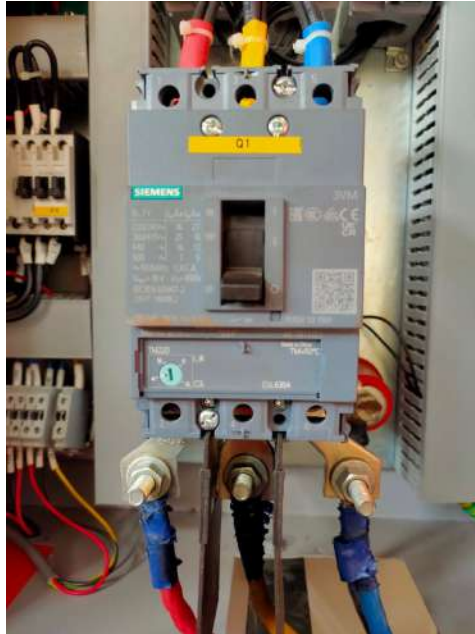

Figure 3-6 Electrical Connection - AC main line input at Control Panel
3. Connect the input supply as depicted in Fig 3-6.
- Establish the electrical connection as per Fig 3-6.